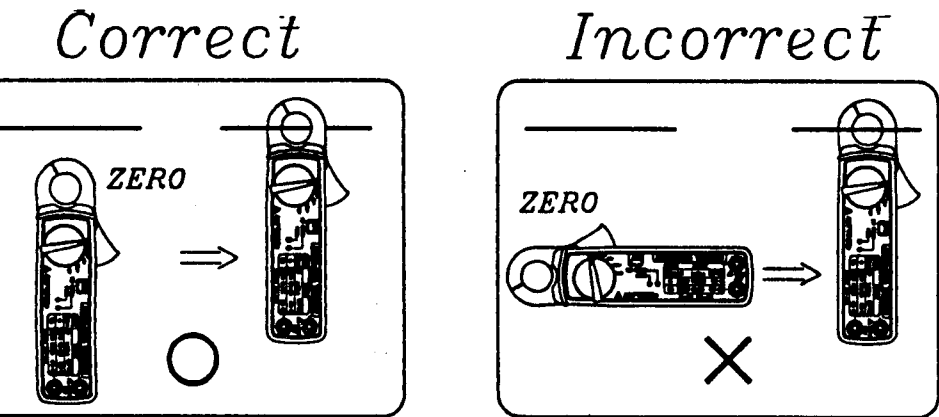

Figure 4.
6. Push the zero button on the CT-30 to adjust the reading of multimeter to zero. See Fig. 4 for proper orientation when zeroing.